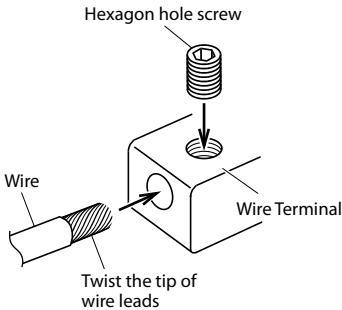

Fig. 6
3. Tighten the hexagon hole screw with the hexagon wrench (included) to secure the lead. (Fig. 6)